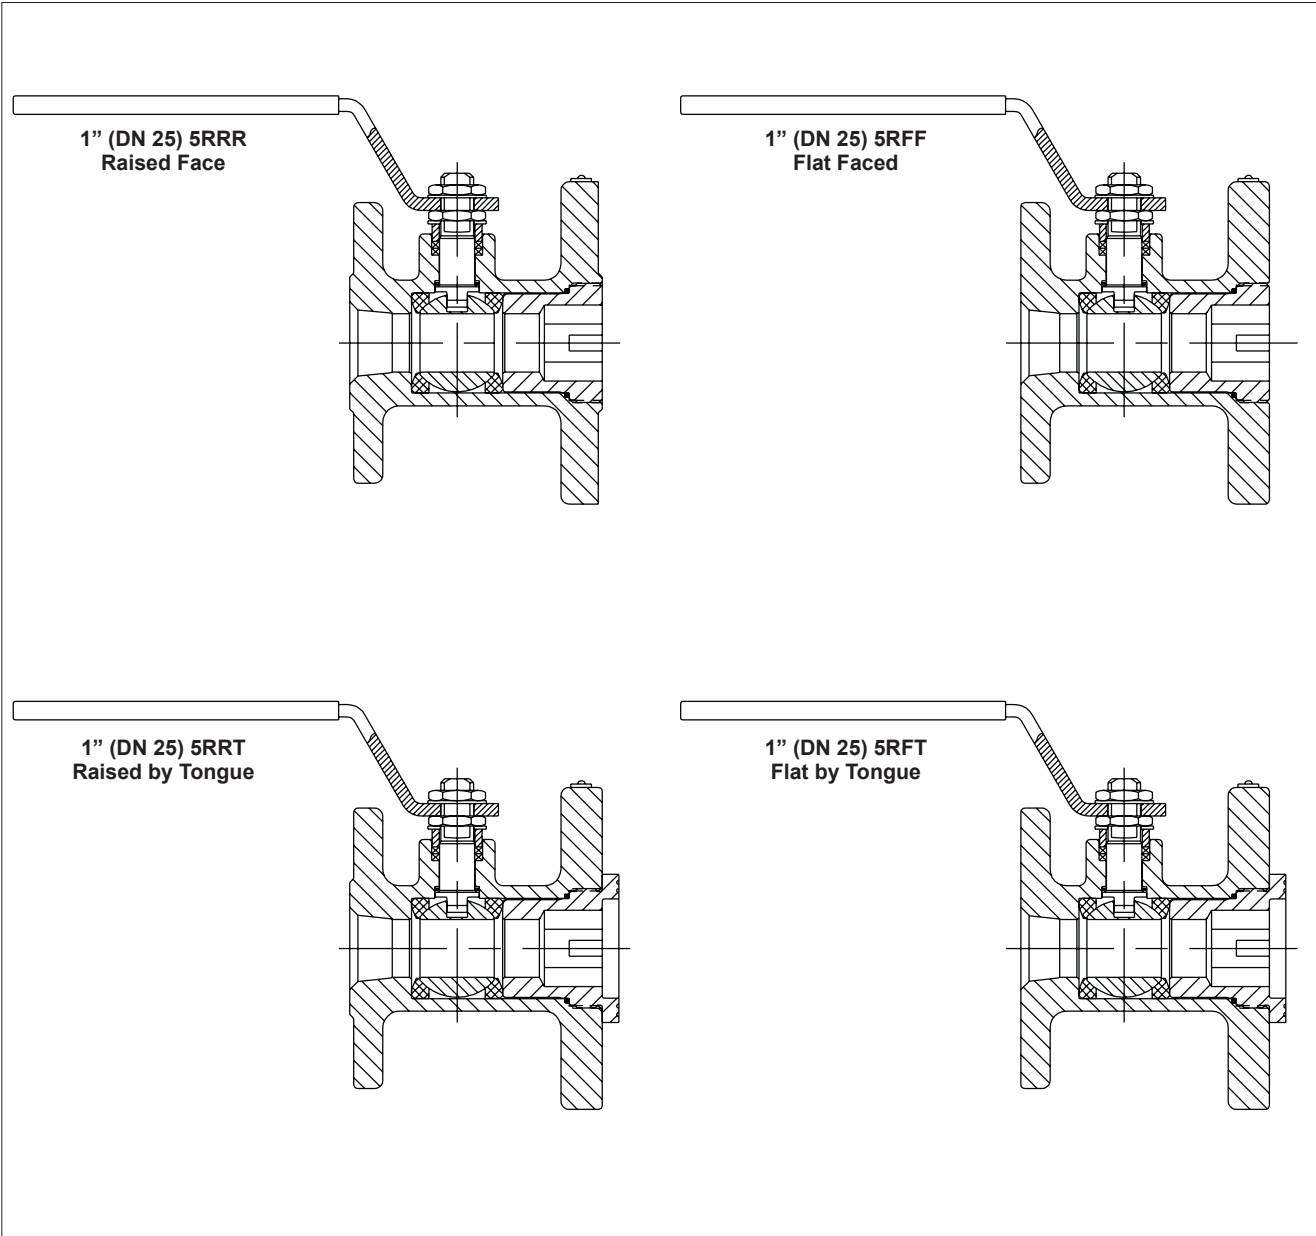

Figure 3.
10. Insert the body seal (6) and gently press it into the groove in the body.
11. Using a thread lubricant compatible with the media, screw the insert (2) into the body and tighten to 125 – 150 FT•LBS (170 – 203 N•m). If a torque wrench is not available, tighten the insert the same number of turns as in Step 7 until the marks match the illustration (shown in **Figure 3**).
12. Place the handle (17), shakeproof washer (19), and stem nut (16) on the valve stem and torque stem nut to 70 – 80 IN•LBS (8 – 9 N•m). Cycle the valve slowly with a gentle back and forth motion to build gradually to the full quarter turn. A fast turning motion at this point may cut the seats before they have a chance to form the proper seal.